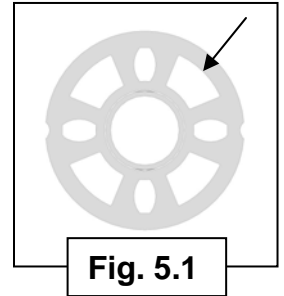

Fig. 5.1
A. On the rear corner Vertical, slide the top end of the Vertical Diagonal into place over the wide opening of the top ring (see Fig. 5.1). Attach the other end of the Vertical Diagonal to the bottom ring of the adjacent Vertical. Flip up the wedges and hammer firmly into place. If bleacher is taller than 2.0M, more Vertical Diagonals will be required (see Fig. 5.2).